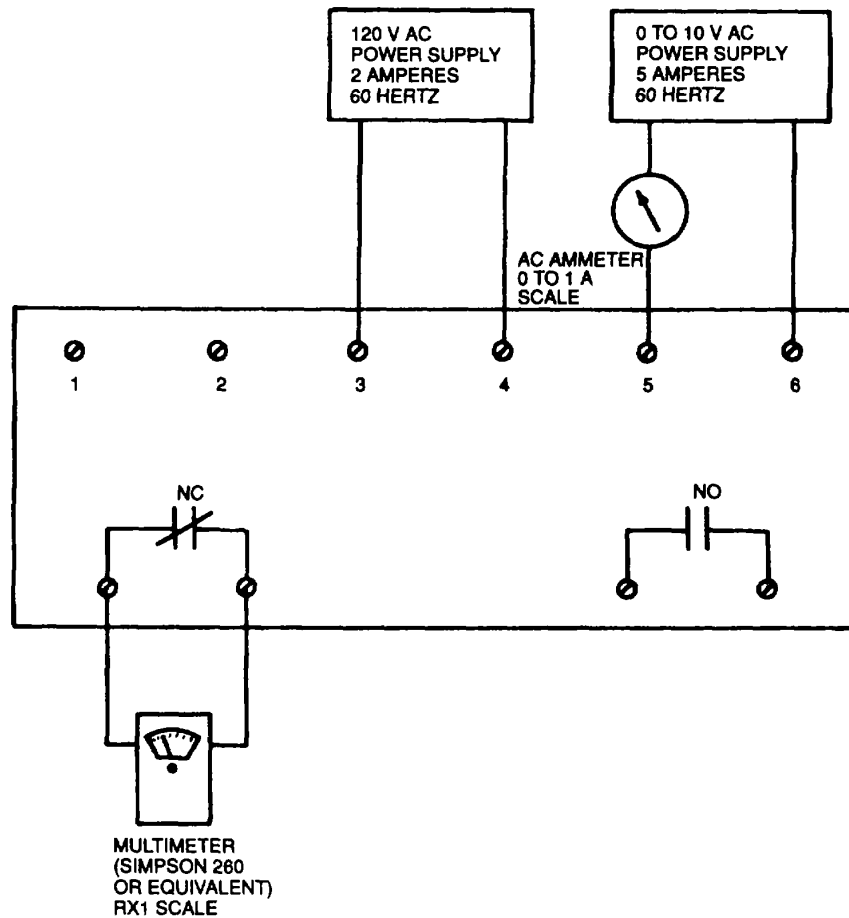

Figure 5-28. Test Setup, Reverse Power Relay K109
- (1) Preparation for bench test.
- (c) See Figure 5-28. Connect 120 V ac, single phase power source at terminals 3 and 4 of K109. Connect the 0-1 ampere AC ammeter in series with a 0-10 V ac power source installed across terminals 5 and 6 of K109. Connect multimeter set to RX1 scale across the terminals marked NC (normally closed) on the relay.
- (2) Test